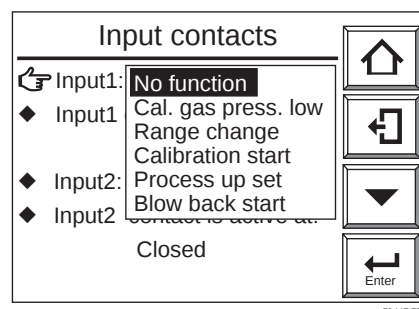

Figure 8.14 Input Contacts Display
- (5) Select Input1 in that display. The Input contacts display then appears, as shown in Figure 8.14.
- (6) Select Calibration start.
- (7) Select Input1 “closed.” An Open or Closed selection display then appears.
- (8) Choose Open.